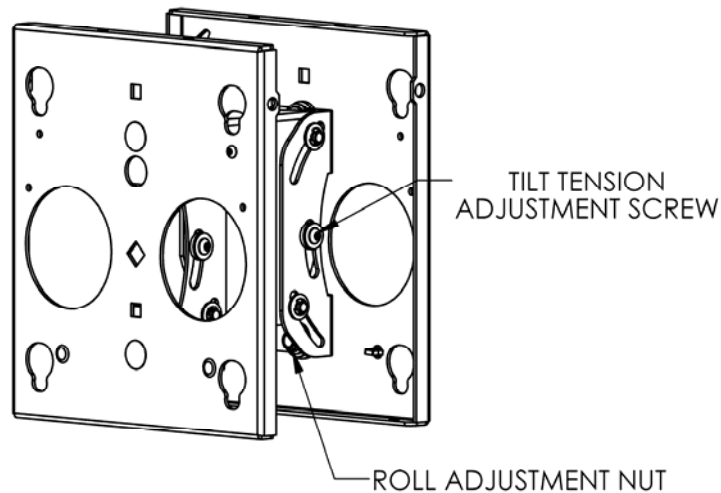

Figure 6. Roll Adjustment
1. Using a 9/16" socket wrench, loosen the 3/8"-16 Nylock nut at rear of mounting plate as shown in Figure 6.
1. Adjust display to the desired pitch (see Figure 6).
2. Using the 5/32" hex wrench (40), tighten the screw to hold the mount in the position, if necessary.